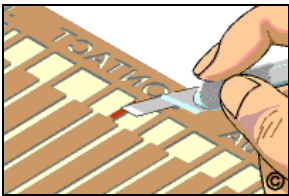

Figure 3: Scrape off the bonding film from solder joint area on the back side.
7. Before trimming out the new edge contact carefully scrape off the bonding film from the solder joint connection area on the back side. (See Figure 3).